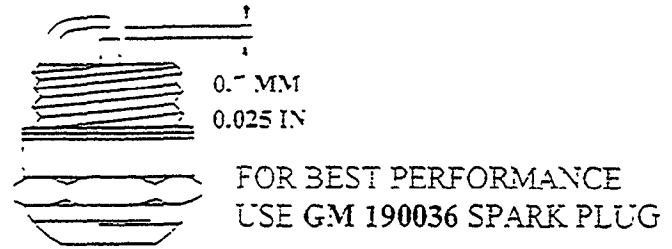

Figure 9
- Remove, clean, and regap spark plug (0.6mm/0.024 inches) (Figure 9).